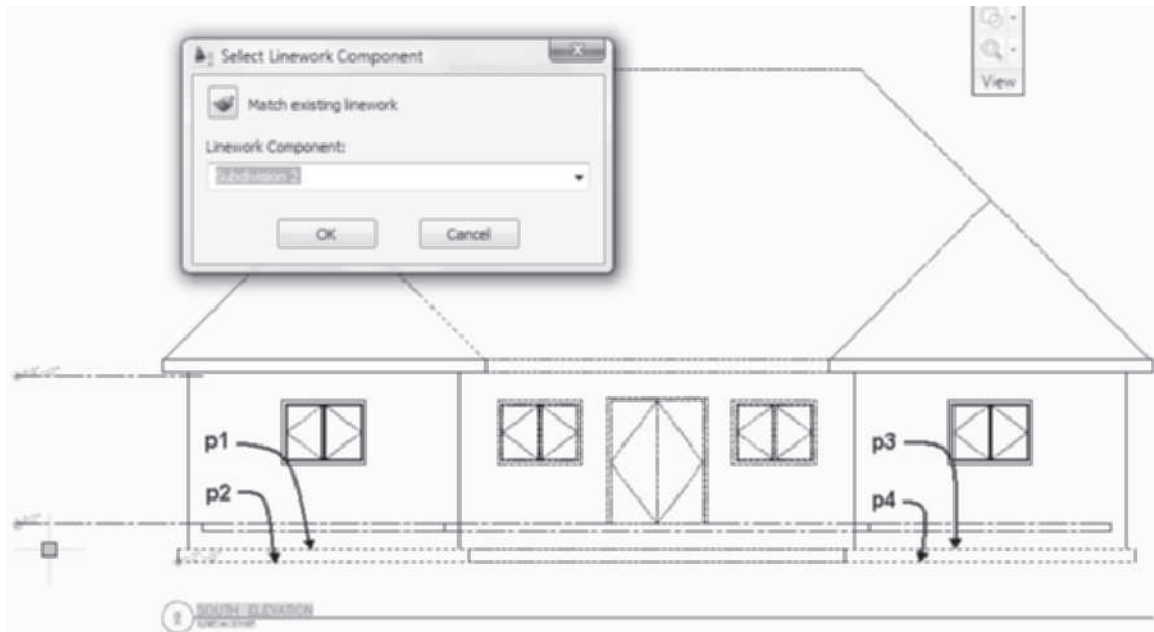

FIGURE 12.74 Footing lines selected for edit
27. Select the elevation and choose **Edit** from the **Linework panel**. The surface hatch is turned off during the edit and the Edit In-Place: Linework tab is displayed. Select the footing lines shown at **p1**, **p2**, **p3**, and **p4** in Figure 12.74 and choose **Modify Component**. Select **Subdivision 2** from the list of display components. Click **OK** to dismiss the **Select Linework Component** dialog box. Select Finish from the **Edits** panel to save your changes.